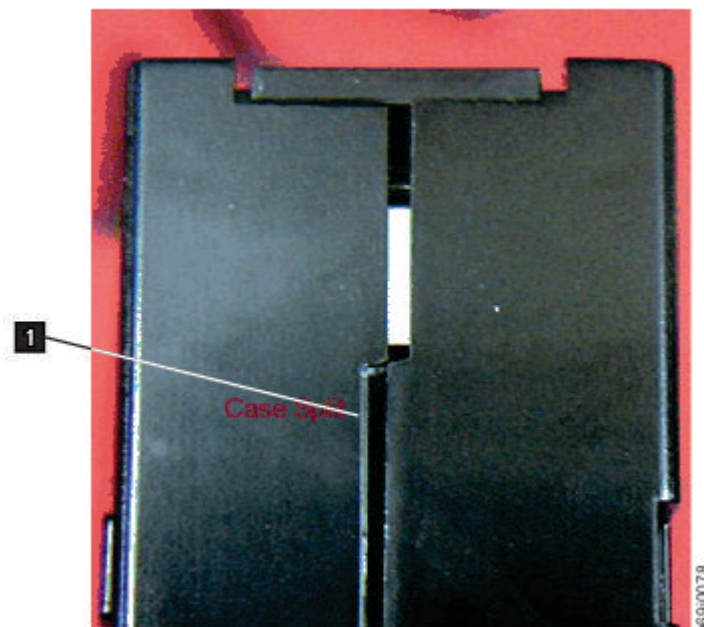

Figure 91. Checking for gaps in the seams of a cartridge
- Inspect the rear of the cartridge (the part that loads first into the tape load compartment) and ensure that there are no gaps in the seam of the cartridge case. If there are gaps in the seam (see Figure 91 on page 191), the leader pin might be dislodged.